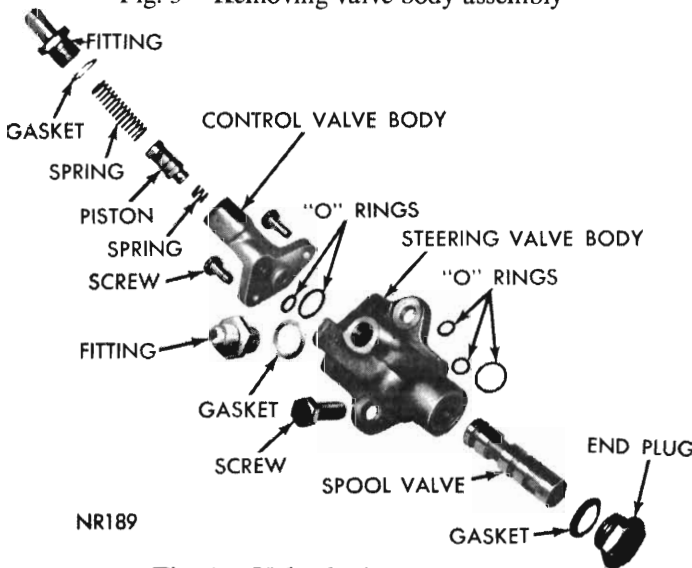

Fig. 4 - Valve body components
(4) Clean the valve bodies and valve pistons thoroughly in clean solvent. Blow out all passages and dry parts with compressed air. Lubricate pistons and bores with power steering fluid, Part No. 2793254.
(5) Install the steering spool valve into the valve body so that the valve lever hole is aligned with the lever opening in the valve body. Valve must be perfectly free in the valve body without sticking or binding (*Fig. 4*).
(6) Install a new gasket on the end plug (if removed). Tighten the plug to 25 lbs./ft.
(7) Install the piston cushion spring in the control valve body, being sure it seats in the counterbore at the bottom of the housing. Lubricate the piston and insert the nose end of piston into the body bore. Test for smooth operation. Be sure the cushion spring is not cocked.
(8) Install the spring on top of the piston, compress the spring and install the retaining pin.
(9) Position the two new 'O' rings on the control valve body and attach the control valve body to the steering valve body. Tighten the two attaching screws to 95 lbs./in.
(10) If the pressure inlet fitting has been removed, tighten the fitting to 30 lbs. ft. (initially).
(11) Re-install valve assembly and test as follows.
(1) Drain the steering gear through the pressure and return connections by turning the steering wormshaft from one extreme of travel to the other.
(2) Remove the 2 valve body attaching screws, and remove the valve body and the 3 'O' rings (Fig. 4).